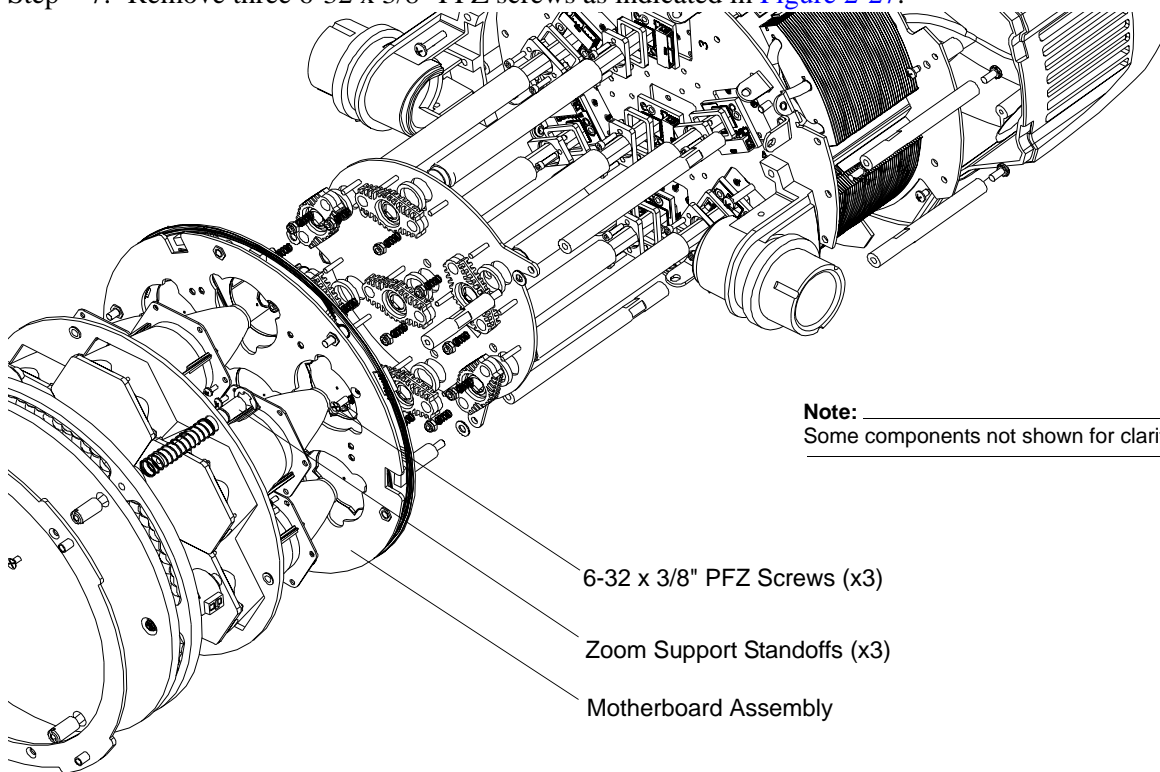

Figure 2-27: Motherboard Assembly Removal
Step 7. Remove three 6-32 x 3/8" PFZ screws as indicated in Figure 2-27.